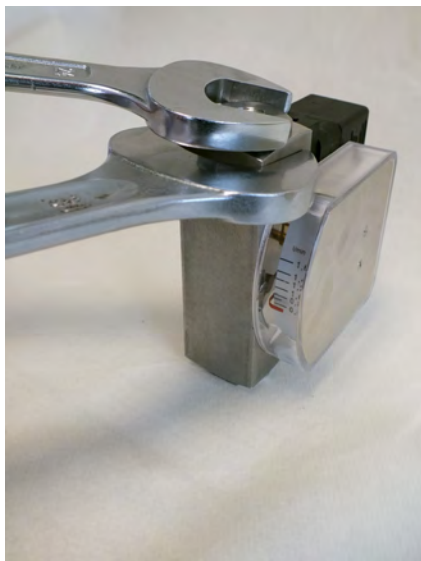

Fig. 60: Tighten process connection (outlet)
11. ▶ Using a proper sized fixed spanner, tighten the process connection (outlet). Hold the device body in place using a suitable fixed spanner (Fig. 60), and observe the proper torque ( Chapter 11.1 “Tightening torque” on page 80).